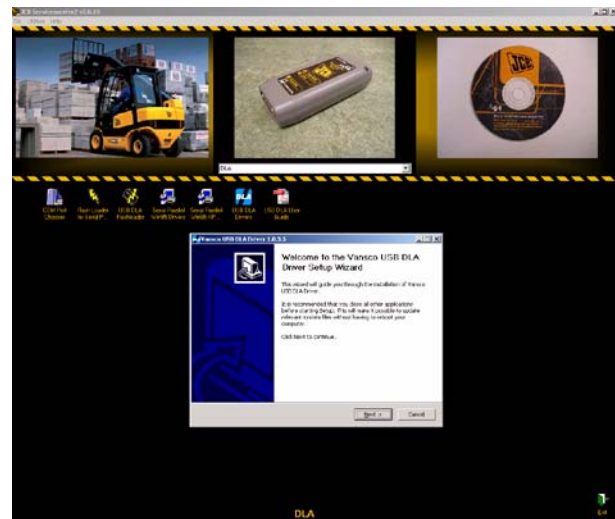

Fig 12.
- 4 The driver installer window will open. → Fig 12. (□ M4-8) Follow the on-screen installation instructions to complete the installation.